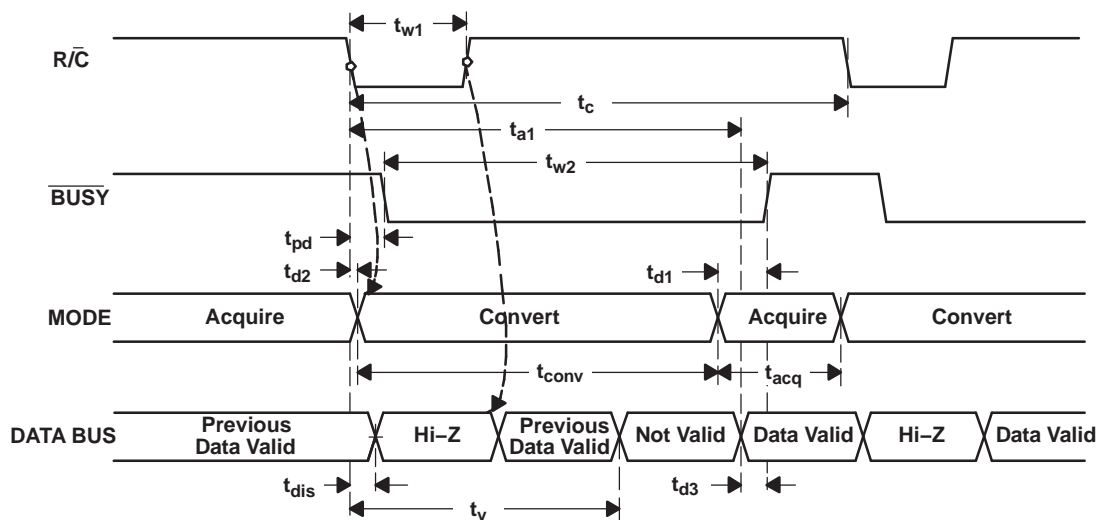
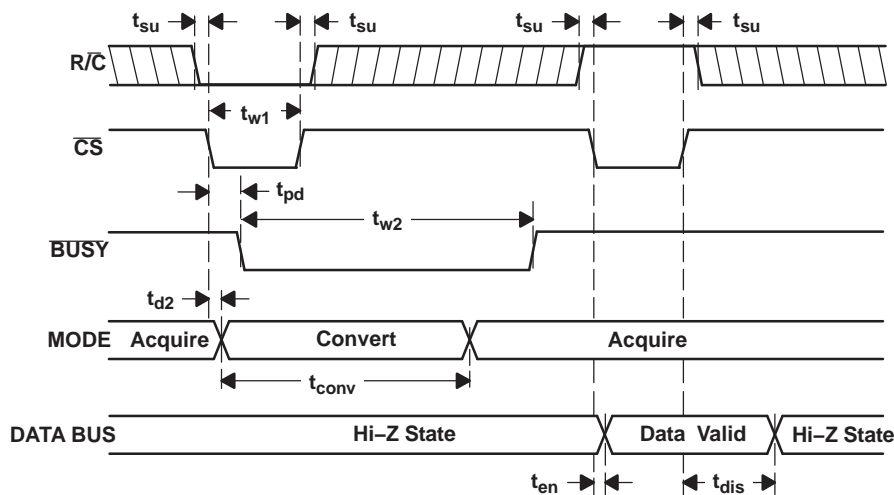
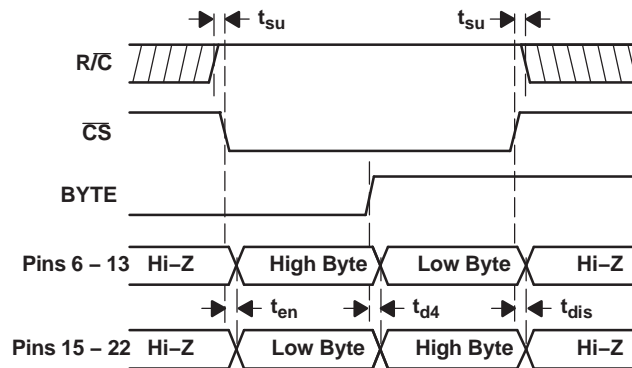

Figure 21. Conversion Timing with Outputs Enabled after Conversion (\overline{CS} Tied Low)
Figure 22. Using \overline{CS} to Control Conversion and Read Timing
Figure 23. Using \overline{CS} and BYTE to Control Data Bus
The ADS8515 begins tracking the input signal at the end of the conversion. Allowing 4 μ s between convert commands assures accurate acquisition of a new signal. Refer to Table 1 for a summary of \overline{CS} , R/\overline{C} , and \overline{BUSY} states and Figure 21, Figure 22, and Figure 23 for the timing diagrams.
(1) See Figure 21 and Figure 22 for constraints on data valid from conversion $n-1$.
After conversion n is completed and the output registers have been updated, \overline{BUSY} (pin 26) goes high. Valid data from conversion n is available on D15-D0 (pins 6-13 and 15-22). \overline{BUSY} going high can be used to latch the data. Refer to Table 3 and Figure 21, Figure 22, and Figure 23 for timing specifications.
After conversion n has been initiated, valid data from conversion -1 can be read and is valid up to t_2 after the start of conversion n . Do not attempt to read data from t_2 after the start of conversion n until \overline{BUSY} (pin 26) goes high; this may result in reading invalid data. Refer to Table 3 and Figure 21, Figure 22, and Figure 23 for timing specifications.
The number of control lines can be reduced by tying \overline{CS} low while using the falling edge of $\overline{R/\overline{C}}$ to initiate conversions and the rising edge of $\overline{R/\overline{C}}$ to activate the output mode of the converter. See Figure 21.